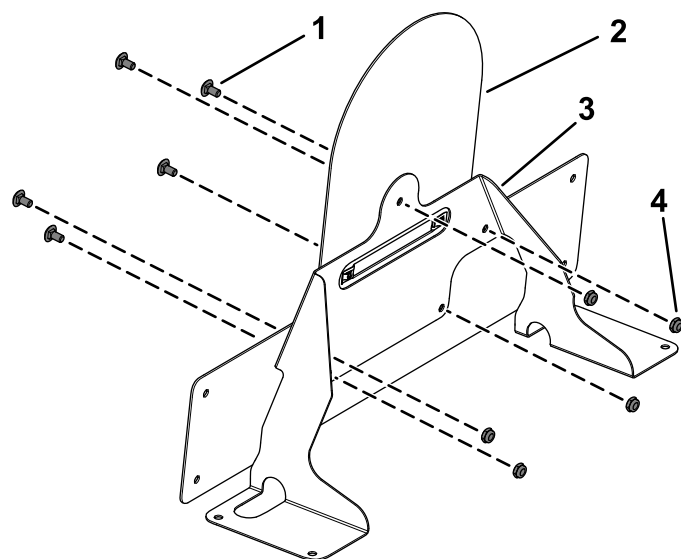

**Figure 21**
7. Apply a speed decal to the speed-plate mount (Figure 21).